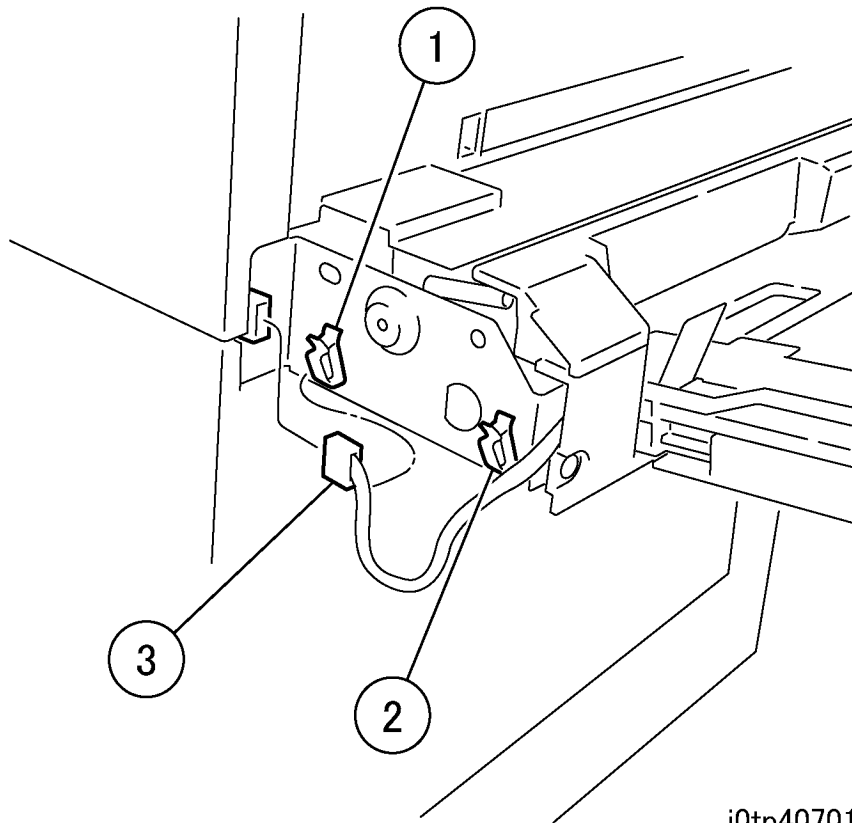

Figure 2 Disconnecting the connector (j0tp40701)
2. Disconnect the connector. (Figure 2)